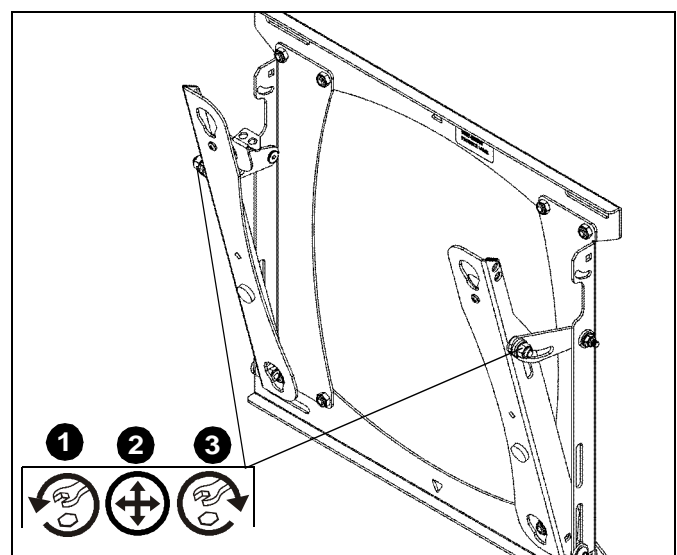

Figure 6
1. Using 1/2" socket wrench, loosen the tilt adjustment nut on both arms of the mount (See Figure 6).